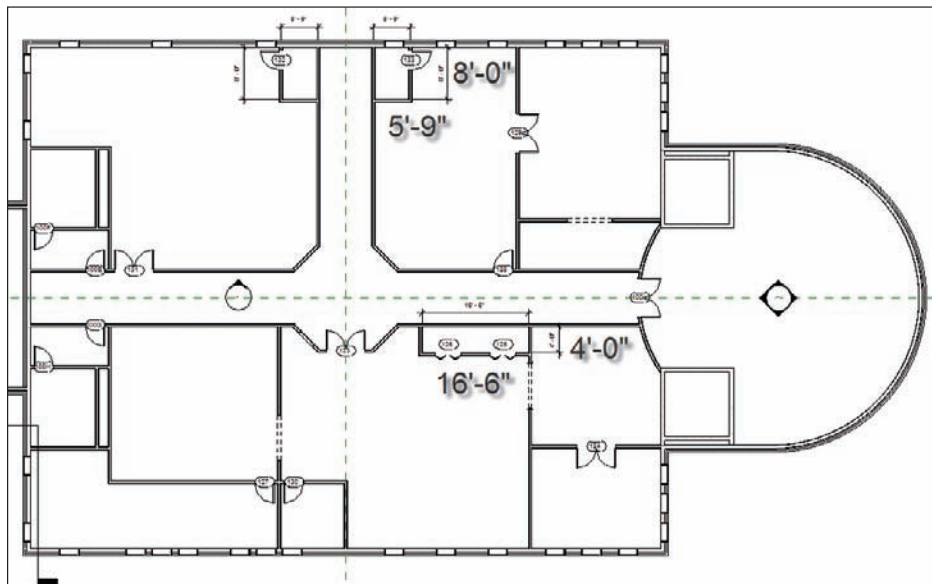

FIGURE 4.54 The layout for Level 2. Try to make the dimensions as even as possible, consistent with what is shown here.
6. Create a floor plan layout similar to Figure 4.54. Make all of the dimensions as even and as round as possible. Use all the commands and functions you have learned up to this point.